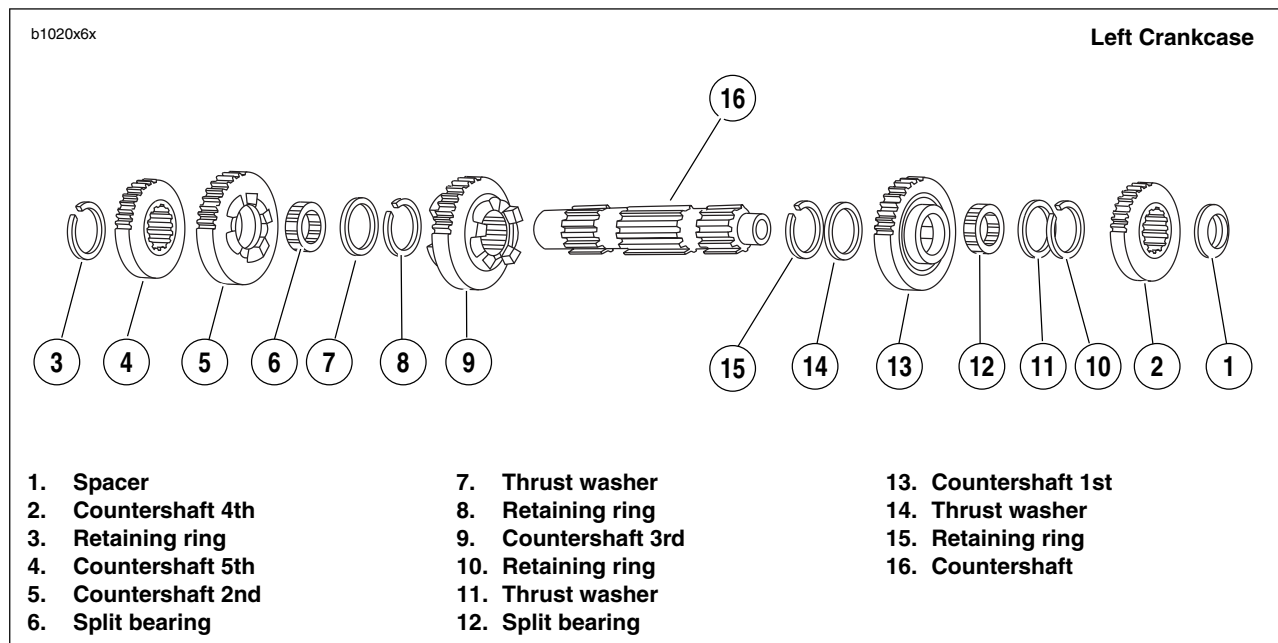

Figure 6-66. Transmission Countershaft Assembly Once Removed from Left Crankcase/Disassembly
- See Figure 6-66. Remove spacer (1) and countershaft 4th gear (2) from the end of the of the countershaft with internal threads.
- Using RETAINING RING PLIERS (Part No. J-5586), remove and discard retaining ring (3) next to countershaft 5th gear (4).
- Slide countershaft 5th (4), and countershaft 2nd (5) off end of countershaft.
- Remove split bearing (6) that was under countershaft 2nd gear (5) and thrust washer (7).
- Remove retaining ring (8) on the countershaft and slide countershaft 3rd gear (9) off free end of countershaft.
- Expand retaining ring (10) located next to countershaft 1st gear (11). Remove retaining ring (10) and thrust washer (11).
- Slide countershaft 1st gear (13) off end of shaft.
- Remove split bearing (12).
- Remove thrust washer (14). Expand remaining retaining ring (15) and slide off countershaft.